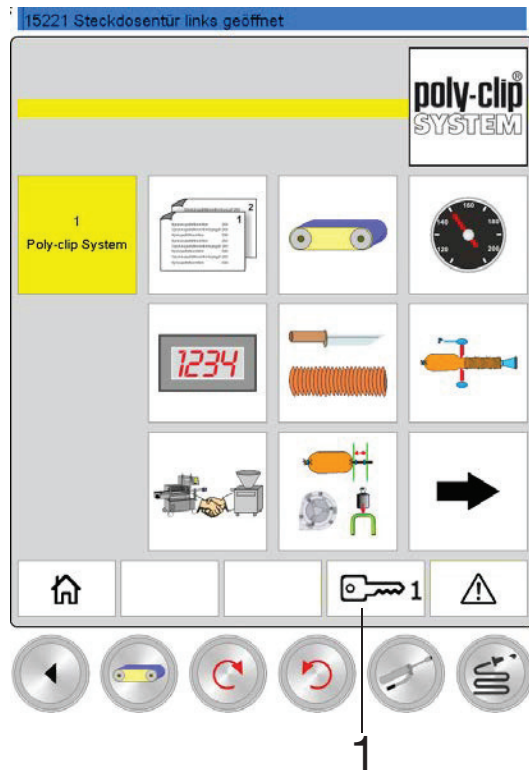

Fig. 4-5 Basic selection screen of the Operator menu level
Once the machine is switched on, the integrated program menu is activated and the screen shown in Fig. 4-5, for example, is displayed on the touchscreen graphic display.
- In the basic selection screen, press the “Key” icon selection button (1, Fig. 4-5).